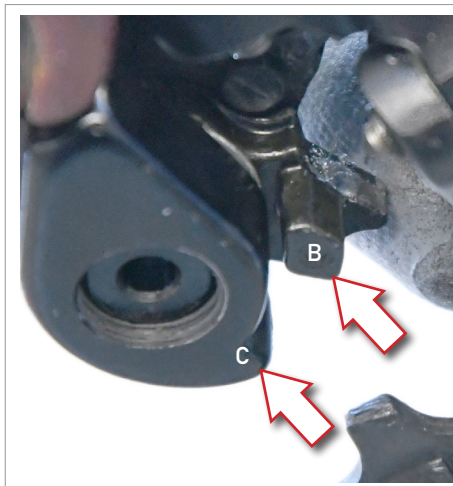
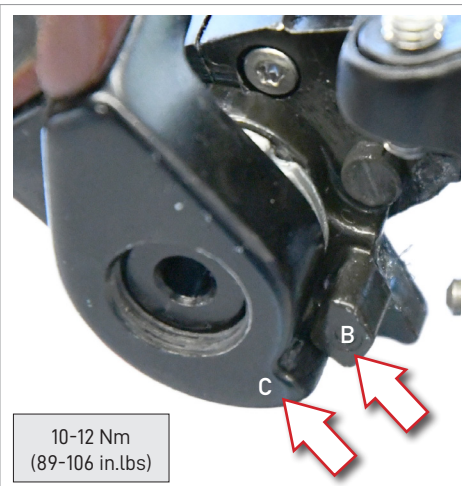

Fig.5
Fig.6
- During assembly, ensure that the rear derailleur tooth (B - Fig.5) is resting correctly on the tooth in the drop-out (C - Fig. 6).